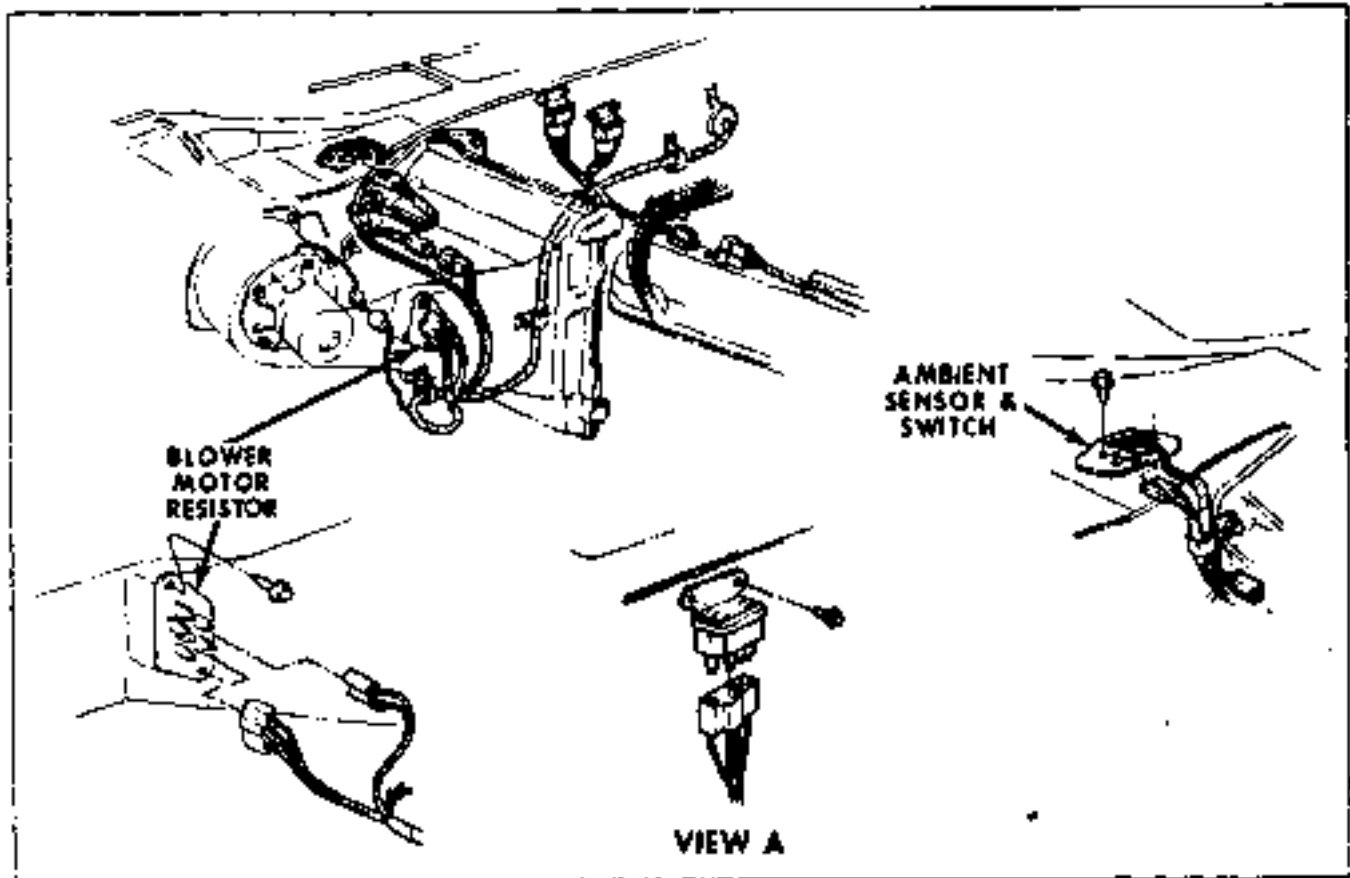

Fig. 1B-3 Grand Prix Automatic Temperature Control
3. Refer to Fig. 1B-4 and 1B-5 respectively for hose routing and connections.